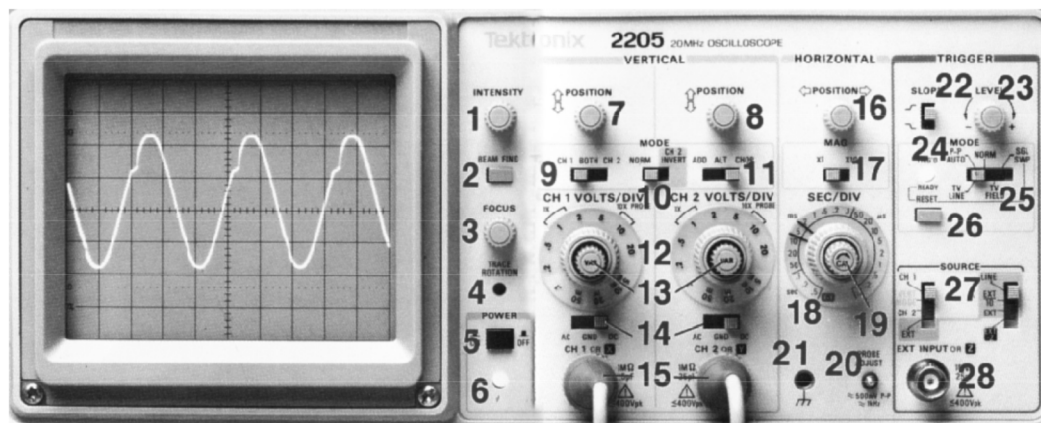

Figure 1 – The oscilloscope face
An oscilloscope is used to graph signals and can display two signals at once on channel 1 (CH1) and channel 2 (CH2). There are knobs to adjust the scale on the graph, one for each voltage (number 12 in *Figure 1*), and one for the time (18). There is also a section on the right side of the oscilloscope labeled *trigger* which tells the scope which signal starts the display. There are two graphing modes that we will use: